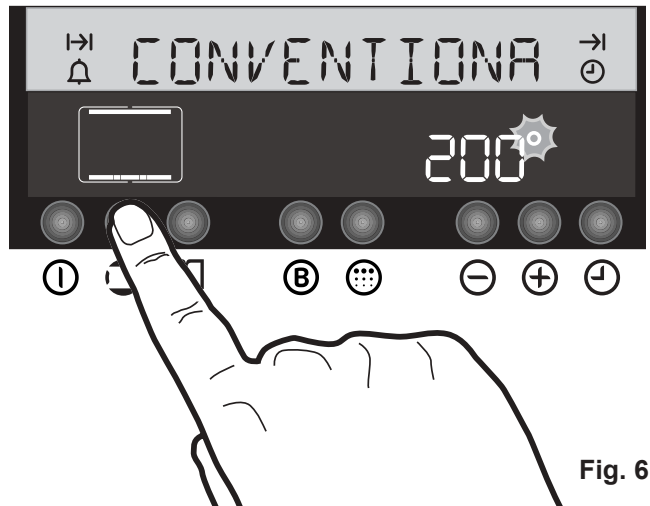

Fig. 6
2. Press the "On/Off" button ① to switch on the oven.
3. Press the "Cooking Functions" button  twice and select the "Conventional Cooking" function  (Fig. 6).